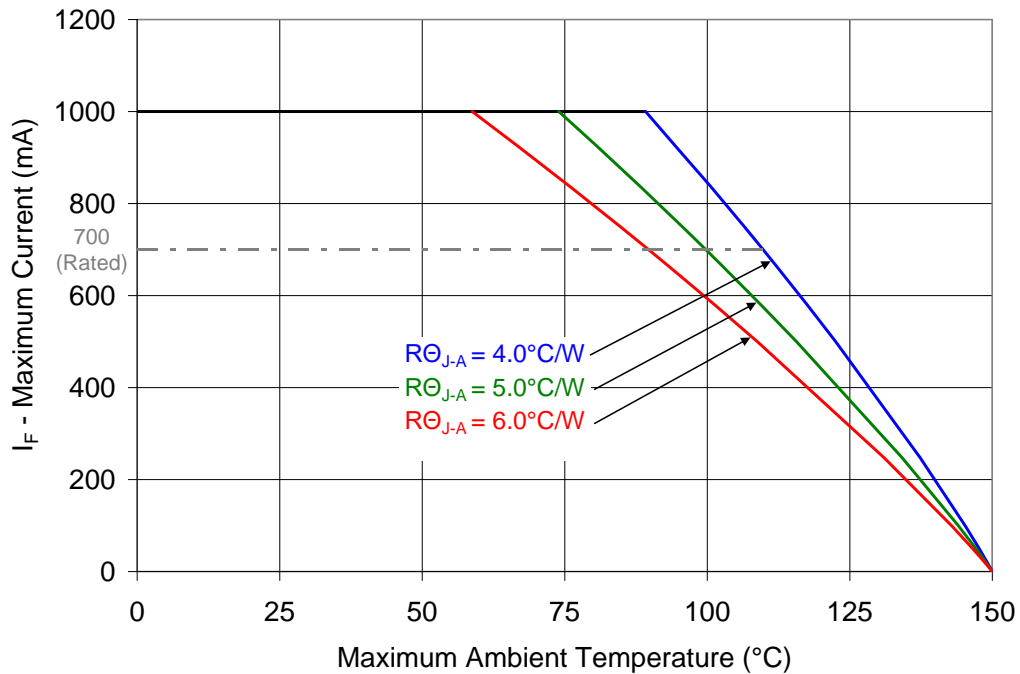

Figure 10: Maximum forward current vs. ambient temperature based on $T_{J(MAX)} = 150^\circ\text{C}$.
- Maximum DC forward current (per die) is determined by the overall thermal resistance and ambient temperature. Follow the curves in Figure 10 for current derating.
Notes for Figure 10: